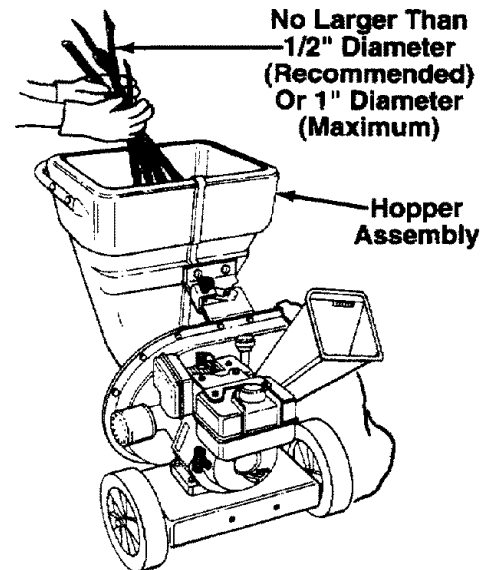

FIGURE 5.
- Leaves and small branches up to 1/2" diameter (recommended) or 1" diameter (maximum) can be fed into the hopper assembly when it is in the raised position. See figure 5. If it becomes necessary to push material into the chipper-shredder, use a small diameter stick—NOT YOUR HANDS. The stick should be small enough that it will be ground up if gets into the impeller assembly.